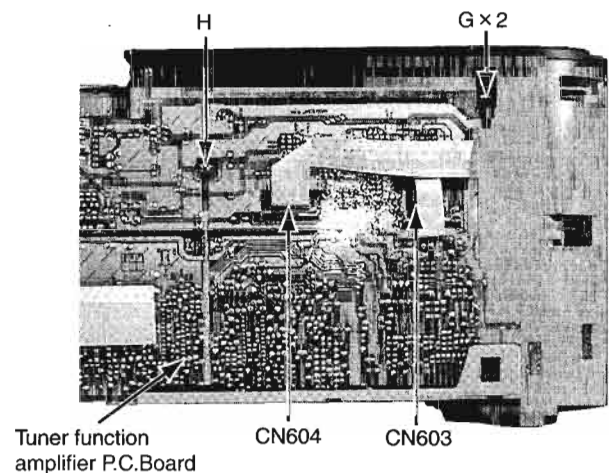

Fig. 6
- 7.Disconnect the card wire from CN603,CN604 on the CD servo control P.C.Board (See Fig 6).